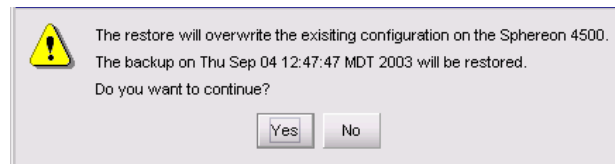

Figure 4-65 Warning Dialog Box
6. Click *Restore*. A *Warning* dialog box displays, indicating the existing configuration file is to be overwritten (Figure 4-65).